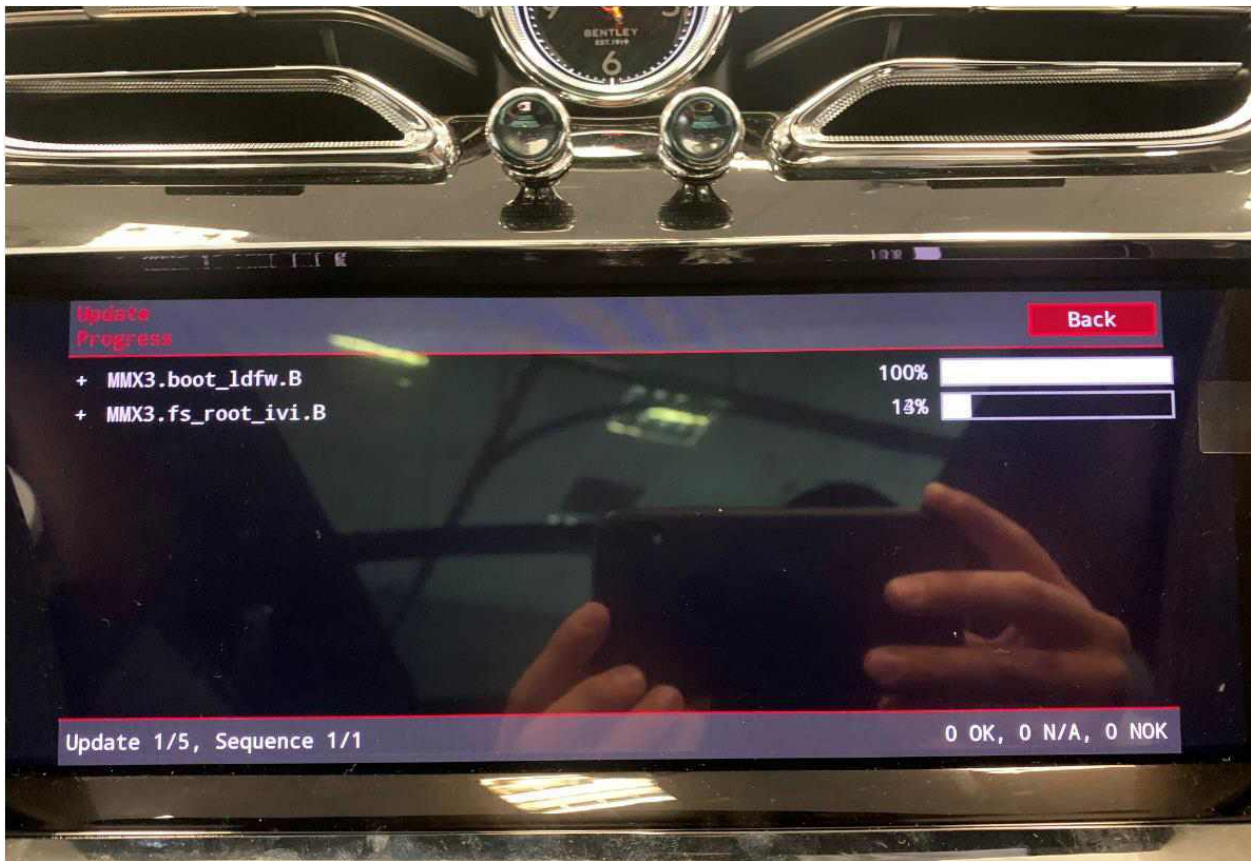

Figure 9
17. The software update will then begin (Figure 9)